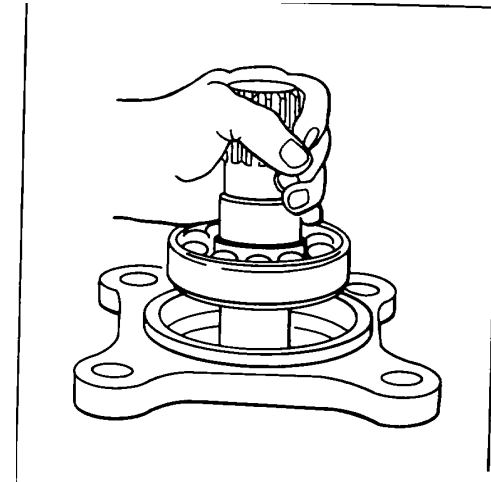

Figure 206.
14. Remove motor shaft (1) and assembled parts ((38), (58), (49) and inner race of (44)), by pulling straight up from mounting flange as shown in Fig 206.
15. Inspect ball bearing (38) for galling, roughness or cage cracks. If damaged, remove retaining rings (58) using truarc pliers and press ball bearing (38) from shaft (1).
16. Inspect inner race of roller bearing (44) for galling or roughness. If no damage is apparent and no damage was observed when the outer race was inspected, do not remove inner race from shaft. If damage was observed on either the inner or outer race, both must be replaced. Remove retaining ring (49) and slide inner race of bearing (44) from shaft (1). This completes disassembly of the Dynapower motor.